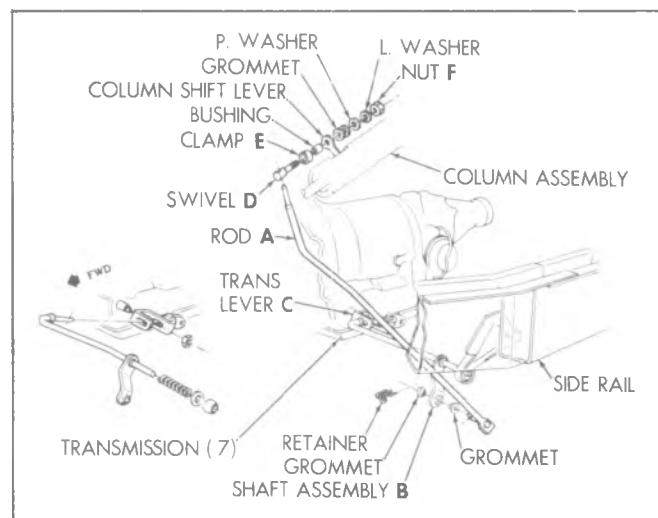

Fig. 7A-5B-Column Shift Linkage-G Series
4. Attach rod (A) to shaft assembly (B) as shown (Fig. 7A-5B).
5. Slide swivel (D) and clamp (E) onto rod (A) align the column shift lever and loosely attach as shown.